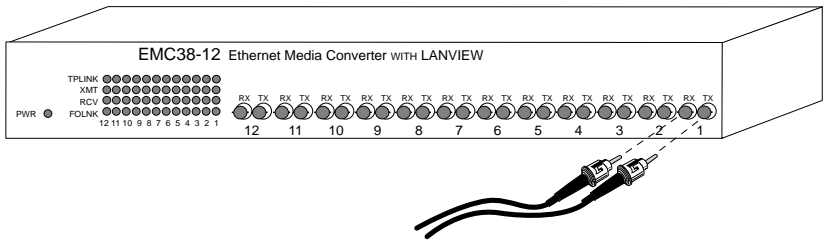

Figure 3-2. Connecting a Fiber Link to the EMC38-12
2. Attach the fiber labeled 1 to the applicable receive port, labeled **RX**, on the module. See Figure 3-2.